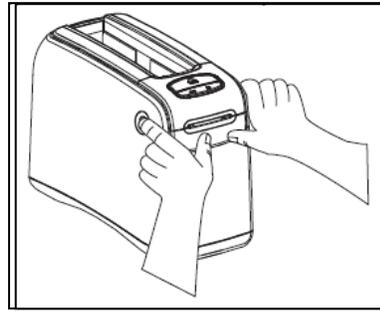

Figure 4
- 3 Refer to Figure 4. Press both upper cover release buttons simultaneously; the upper cover will partially open.
- 4 Refer to Figure 4. Press both upper cover release buttons simultaneously; the upper cover will partially open.